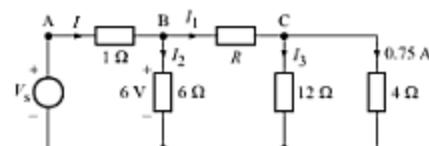

Fig. 2.45
19. In the circuit shown in Fig. 2.45, find (a)  $R$  and  $V_s$ , and (b) the power delivered by the source  $V_s$ .